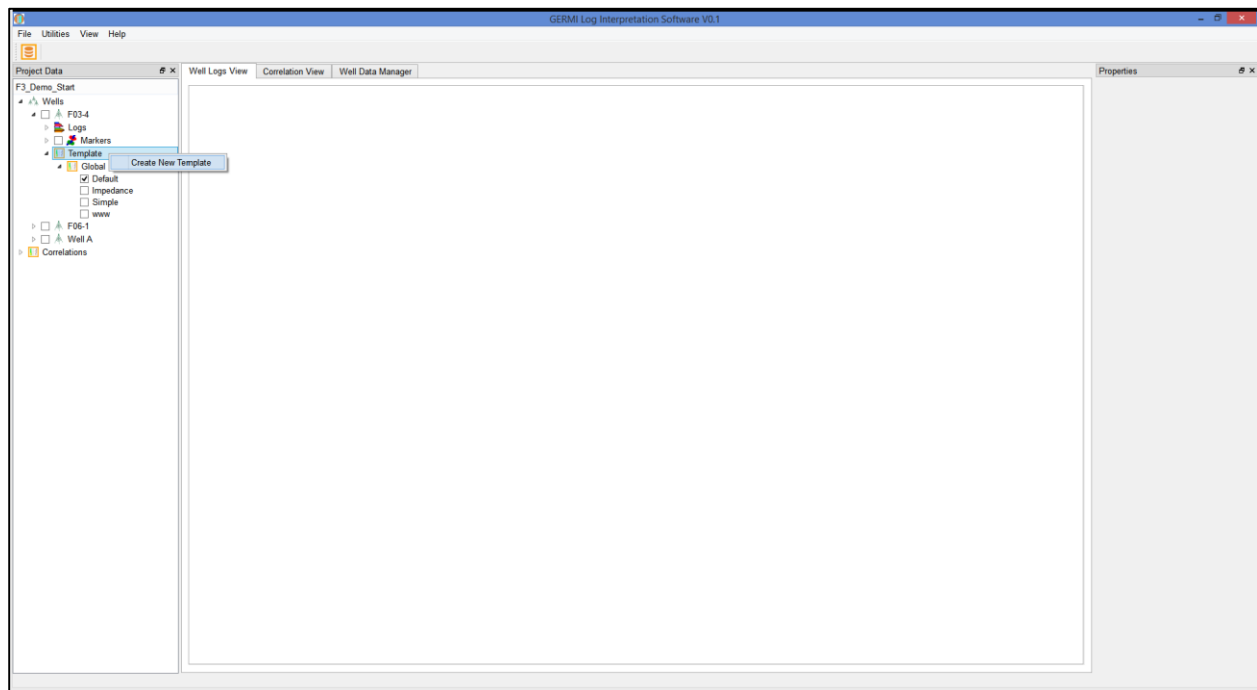

Figure 4.1 “Create New Template” option from project data tree.
Step 1: Right click on “**Template**” from that Well on project data tree and then click on “**Create New Template**” as show in figure 4.1.